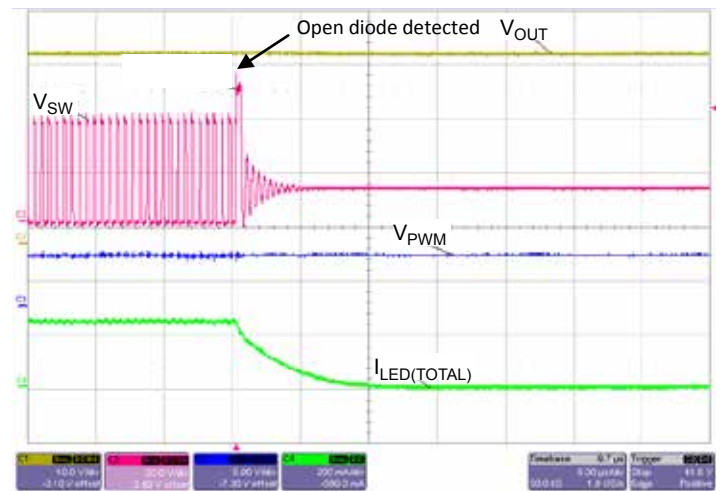

Figure 25: Open Schottky Diode Protection
Figure 25 illustrates open schottky diode protection while the IC is in normal operation. As soon as the switch node voltage (SW) exceeds 48 V the IC will shut down. Due to small delays in the detection circuit, as well as there being no load present, the switch node voltage (SW) will rise above the trip point voltage.